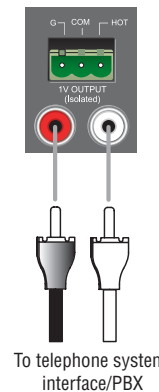

Figure 2.9 Connections to the MOH Stereo Line Out Connector
Use 1-conductor shielded cable and RCA plugs for the MOH 1V Line Output RCA Connector (Figure 2.9).
- **MOH 1V Line Output RCA Connectors:** Two RCA connectors (mono) for 1-volt Music-On-Hold output (in parallel with 600-ohm connectors, so they are isolated). See Figure 2.9.